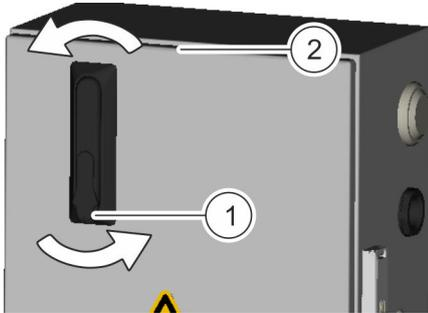

Fig. 22: Opening the enclosure door
2. ▶ Open the enclosure door. To do this, first fold out the swivel lever (Fig. 22/1) and then rotate it anti-clockwise (Fig. 22/2).